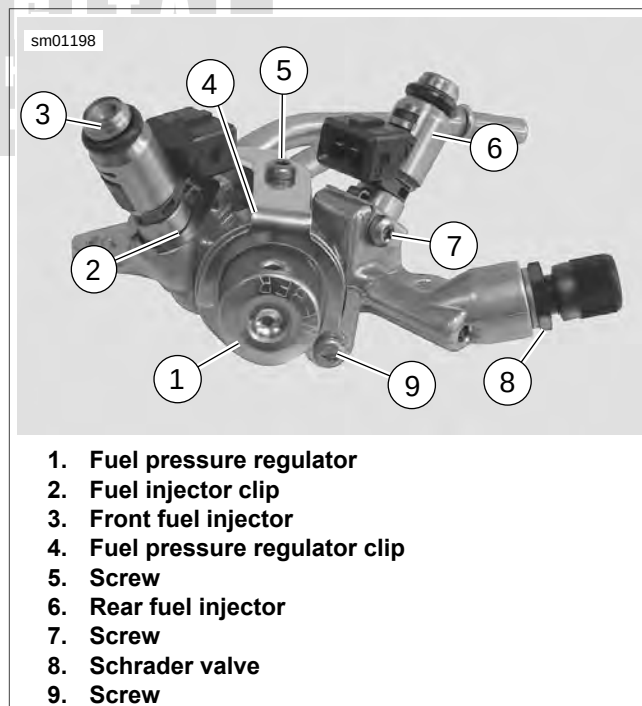
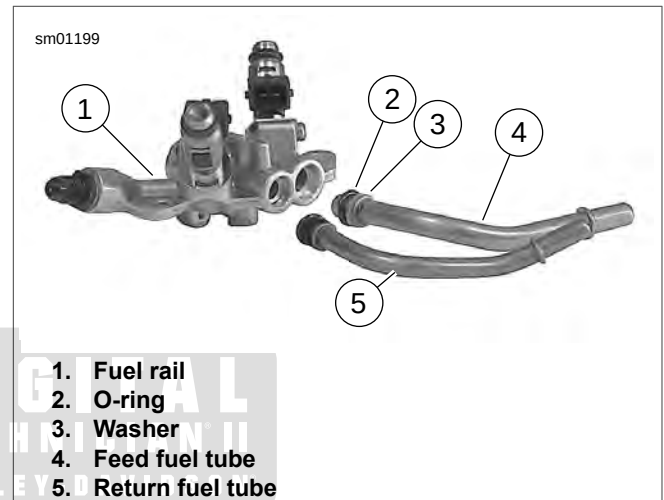

Figure 4-18. Fuel Rail
Figure 4-19. Fuel Tubes
1. See Figure 4-18. Remove screw (7).
1. See Figure 4-18. Remove screws (5, 9).
2. Remove fuel pressure regulator clip (4) from fuel rail.
3. Use rocking motion to detach fuel pressure regulator (1) from fuel rail.
3. See Figure 4-19. Pull feed (4) and return (5) fuel tubes from fuel rail.
4. See Figure 4-18. Install fuel pressure regulator clip over fuel tubes and regulator.
1. See Figure 4-19. Install washers (3) over fuel tube.
2. Apply **clean** engine oil to **new** fuel tube O-rings (2).
4. See Figure 4-18. Install fuel pressure regulator clip over fuel tubes.